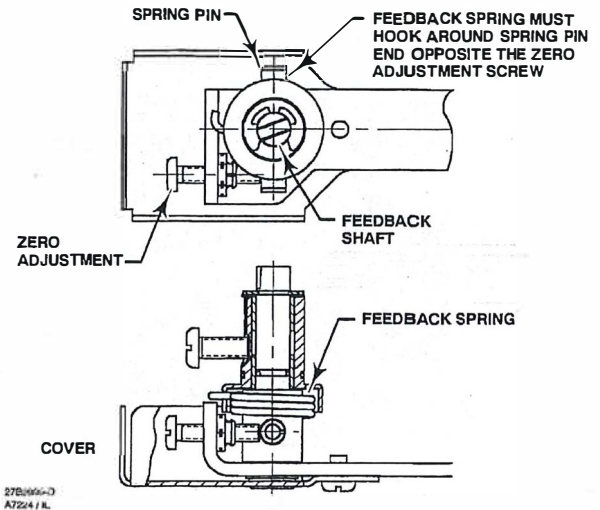

Figure 10. Positioning Feedback Spring
4. Refer to figure 10. Verify that the feedback spring in the feedback lever assembly bushing is hooked on the end of the spring pin opposite the zero adjustment screw.